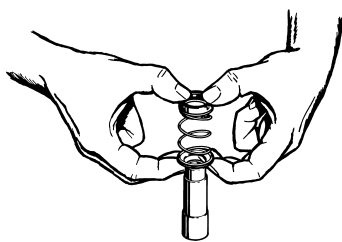

Figure 4-3
8. Remove the Seal Rotating Element (#12) from the sleeve. Refer to Figure 4-3. The element normally adheres tightly to the sleeve and some force